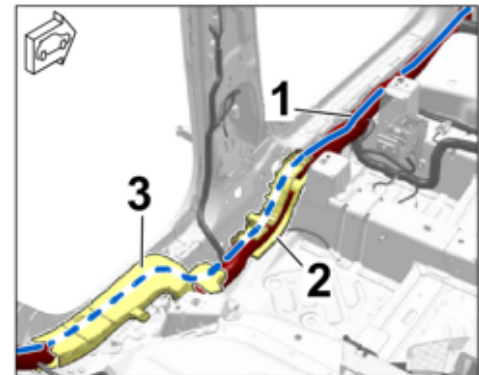

Figure 25
3.2.2 Door sill area, left (⇒ Figure 25)